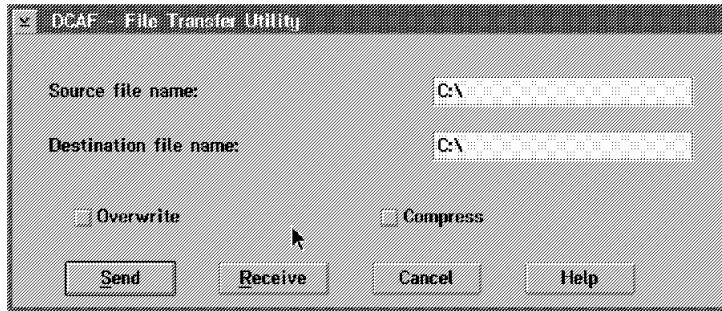

Figure 3-7. DCAF File Transfer Utility Window
- Step 1. From DCAF main window, select **Services→Start File Transfer**. This displays the **DCAF - File Transfer Utility** window (see Figure 3-7 on page 3-16).